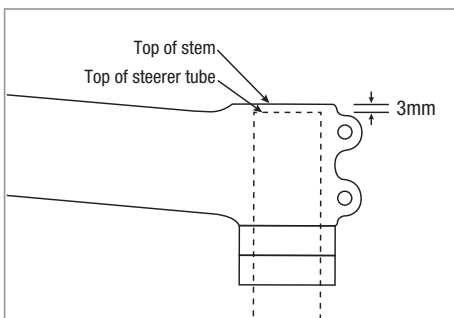

Figure 6
**NOTE:** After cutting, the steerer tube must be 3mm below the top of the stem (Fig. 6).